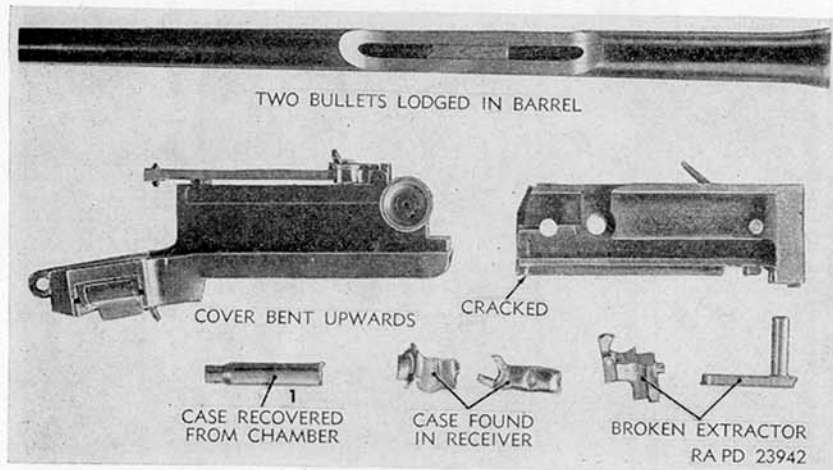

Figure 28. Damage from firing with bullet in bore, cal. .30 machine gun.
- (2) A bullet lodged in the bore immediately forward of the chambered cartridge will rupture the head of the cartridge case (fig. 28). A bullet lodged in the middle portion of the bore ordinarily does not rupture the fired case. The case may show signs of high pressure. Ordinarily, the rupture of the